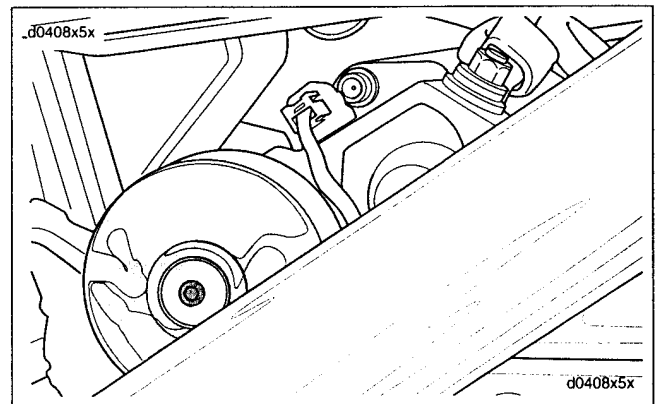

Figure 5-8. Starter Cover Screw
4. See Figure 5-8. Remove screw and end cover from starter.
6. See Figure 5-8. Attach starter end cover using screw.